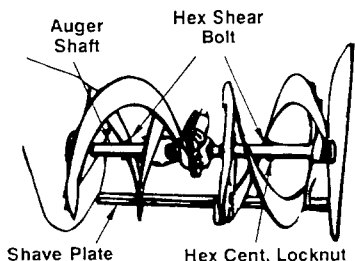

FIGURE 22
- The space between the shave plate (see figure 22) and the ground can be adjusted. For close snow removal, place slide shoes in the low position. Use middle or high position when area to be cleared is uneven.
Remove auger bolts on auger shaft, see figure 22. Oil or spray lubricant inside shaft.